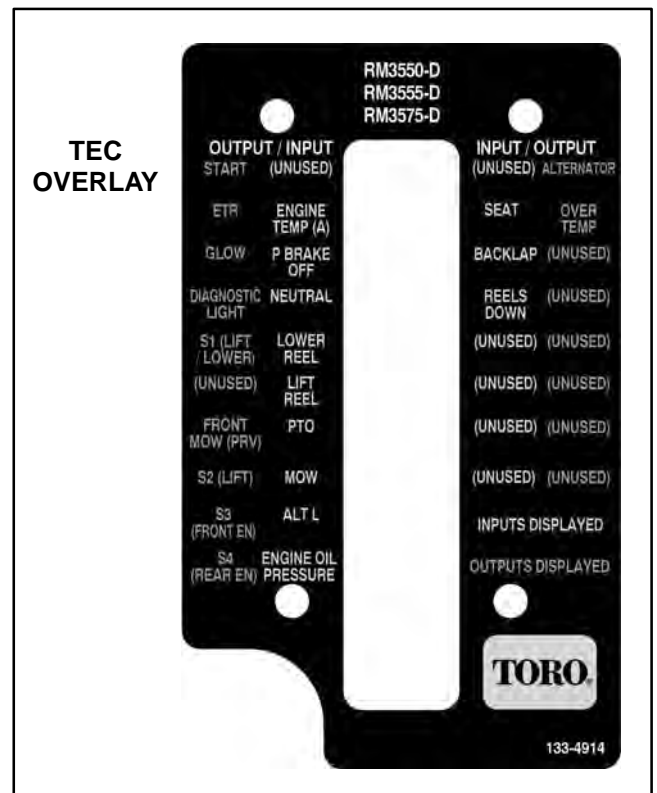

Figure 10
3. Connect the Diagnostic Display connector to the wire harness connector. Make sure correct overlay decal is positioned on the Diagnostic Display (Fig. 10).